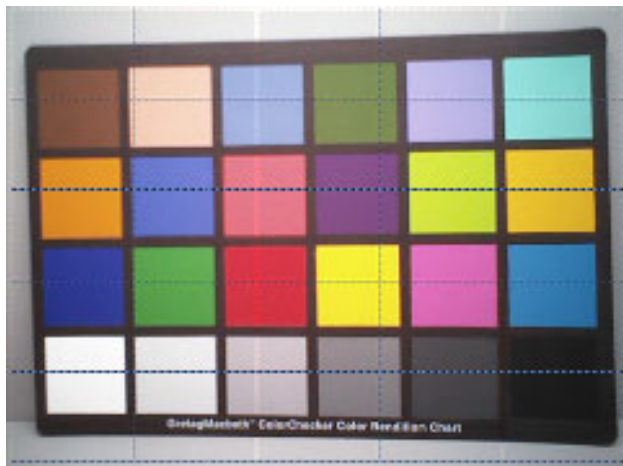

Figure 28. 5 × 5 Grid
- Weighted Average Brightness (ae_rule_algo VAR = 9, 0x0004, 0x0001 or REG = 0xA404, 0x0001) Each of the 25 windows can be assigned a weight relative to other window weights, which can be changed independently of each other. For example, the weights can be set to allow the center of the image to be weighted higher than the periphery. See Figure 28.